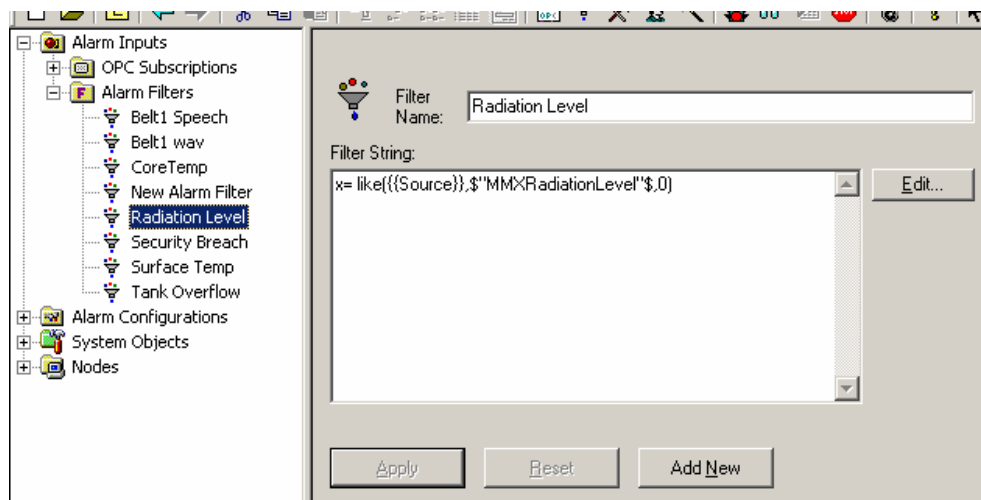

Figure A.37. Alarm Filters in the Multimedia Configurator
1. Expand the **Alarm Inputs** folder in the left-hand tree control of the Multimedia Configurator, and then expand the **Alarm Filters** folder. This shows all of the filters already defined in your system, as shown in **Figure A.37**.